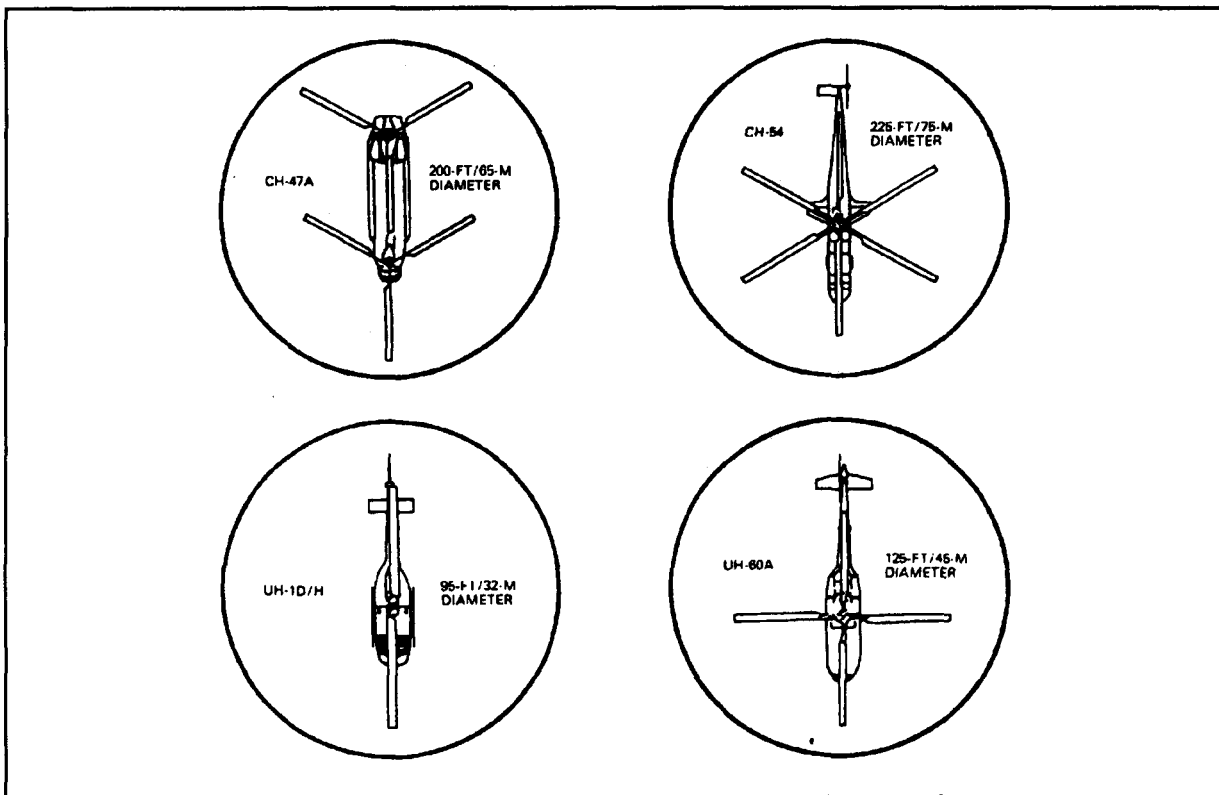

FIGURE 2-1. Minimum Required Clearances (Without External Loads).
(1) As a general rule, the shape of the PZ or LZ is circular and from 25 to 100 meters in diameter (Figures 2-1 and 2-2). It should be free of obstructions, such as trees, stumps, bushes, or man-made objects, that could cause damage to the helicopter. Mark hidden obstructions or warn the supporting aviation unit of their presence.
(2) Consider the number of aircraft that will be using the site at one time along with its use after dark. If night resupply is scheduled, a larger area is normally needed.